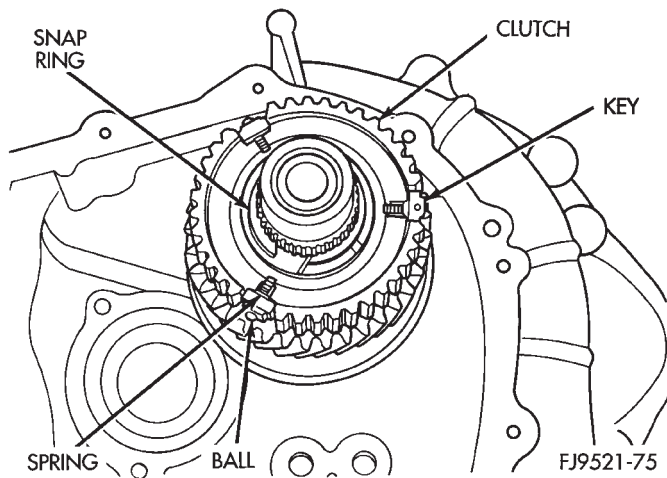

Fig. 129 Keys in Hub
(6) Line up stop ring tang over the keys in the hub (Fig. 129). Install stop rings. Center the keys and balls by pushing on both stop rings.